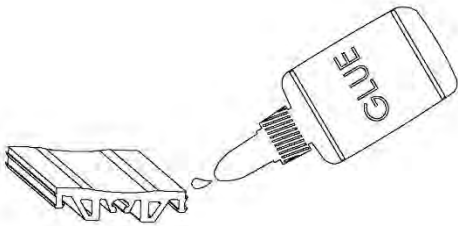

Figure 3
3. Apply a Super Glue, cyanoacrylate type (non-gel) or similar adhesive (by others) and follow instructions by the adhesive manufacturer. **See Figure 3**